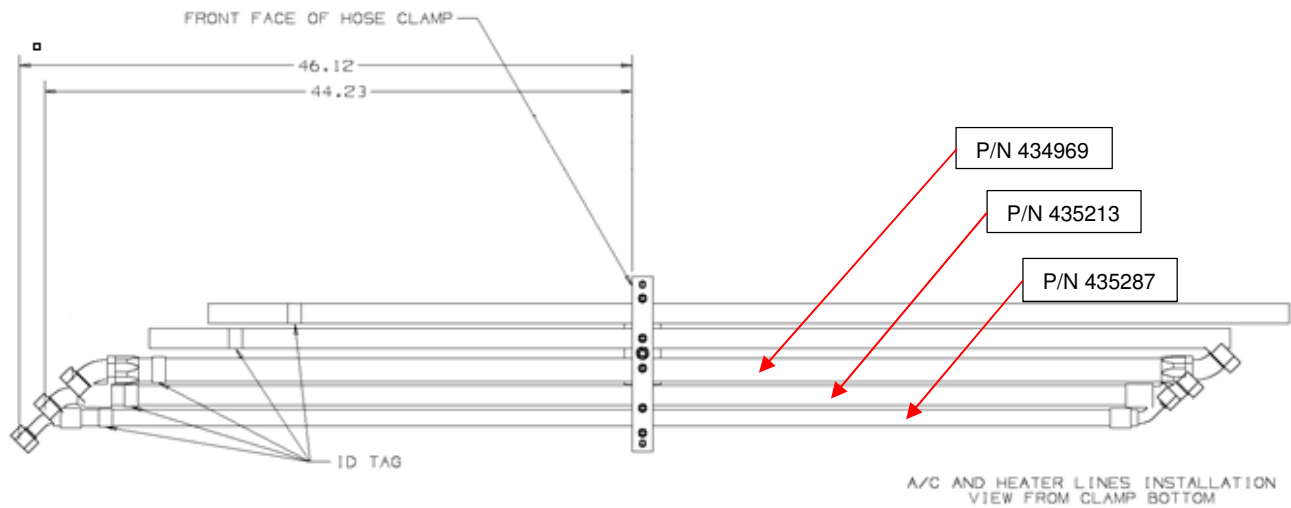

Figure 4: Locations to Mark A/C Hoses.
18. At the rearward bulkhead, reconnect the hoses to their respective connection points. Note that there are alignment marks on the bulkhead for orienting hose P/N 435213 & P/N 435287. Figure 4.